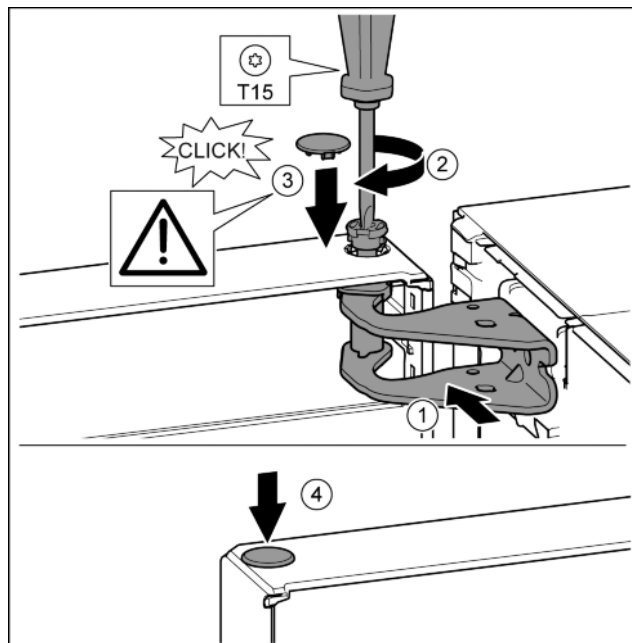

Fig. 22
- ▶ Align the top of the door with opening in the bearing bracket. *Fig. 22 (1)*
- ▶ Insert the bolt and tighten with a T15 screwdriver. *Fig. 22 (2)*
- ▶ Fit the protective cover to protect the door: Insert the protective cover and check that it is attached to the door. If not, insert the bolt fully. *Fig. 22 (3)*
- ▶ Insert the plugs. *Fig. 22 (4)*